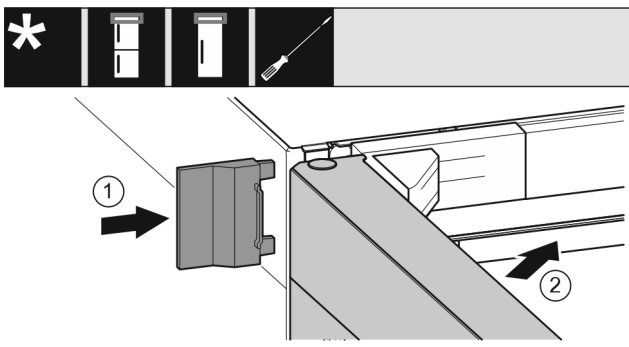

Fig. 19
- ▶ Slide on the outer cover. *Fig. 19 (1)*
- ▶ Close the upper door. *Fig. 19 (2)*